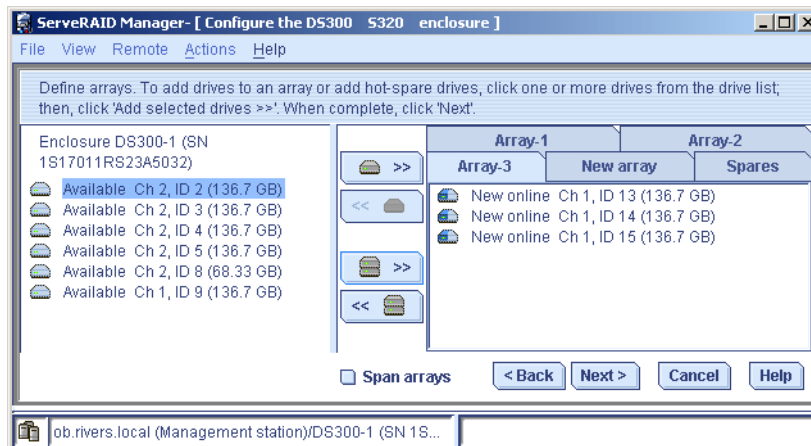

Figure 4-63 Array-3 with three drives
8. Select the **New array** tab and repeat step 6 on page 117 to create a new array with drives ID 13, 14 and 15. See Figure 4-63.